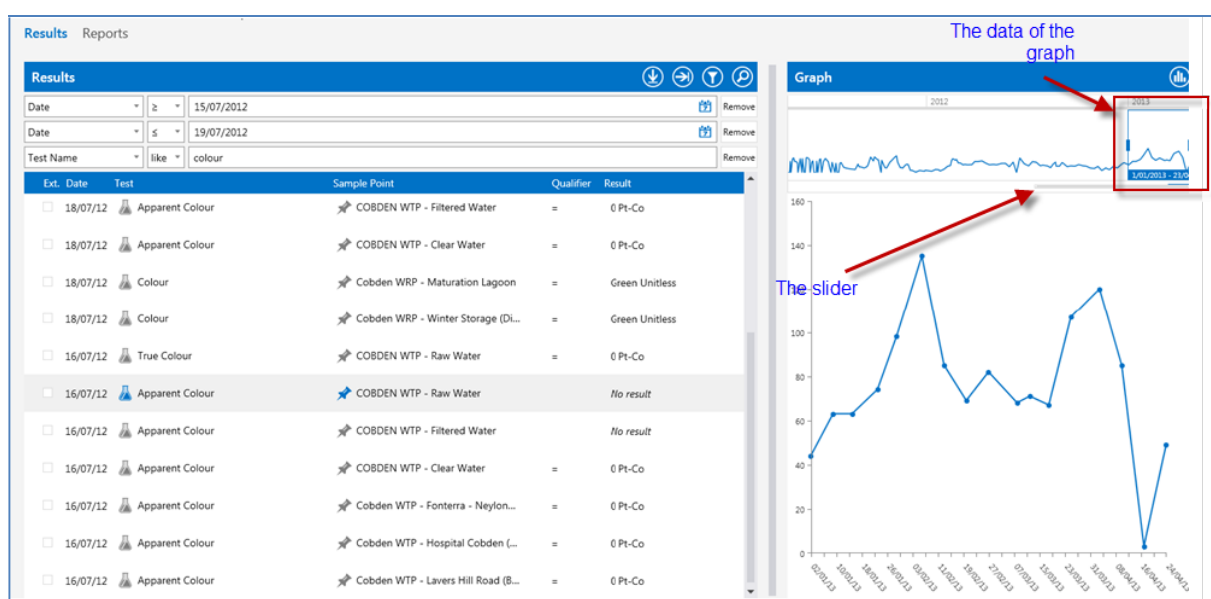

Figure 1: The Aquantify data entry screen
- Graphing trends.** When an Operator clicks on a test, two graphs for that test appear (Figure 1). One is a graph and one is a timeline. The timeline has a slider that the Operator can move to see the entire history of data entered. There is also a box around the data which is represented on the graph and you can move the box to have historical data appear on the graph if detail is needed.